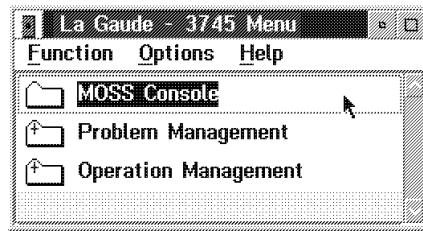

Figure 5-1. 3745 Menu
- c. ____ Double click on "**MOSS Console**" (see Figure 5-1)